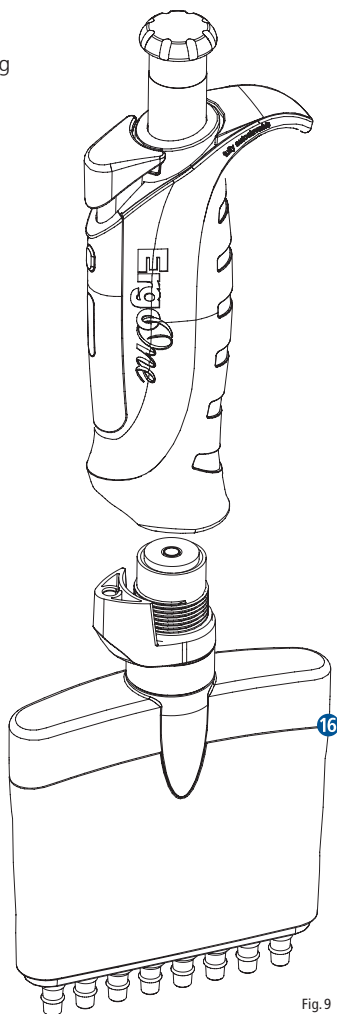

Fig. 9
- Fully unscrew the lower housing **16** by turning counter clockwise (Fig. 9).